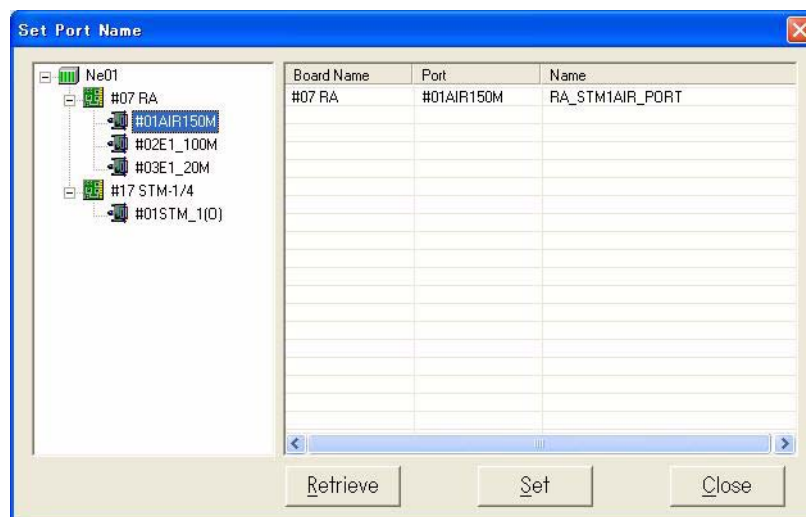

Fig. 4-4-30 Set Port Name Dialog Box
- 1 Select **Set Port Name** from the **Configuration** menu. The **Set Port Name** dialog box shown in Fig. 4-4-30 below appears: